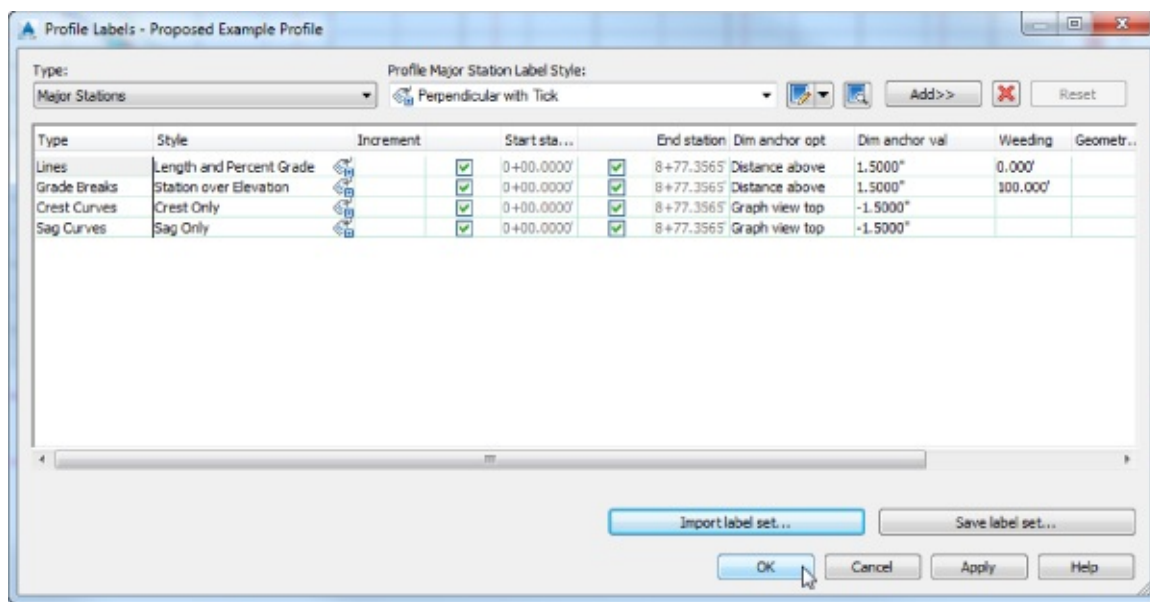

Figure 18.49 Four label types and dimension anchor settings in the label set to be saved
15. Set both Dim Anchor Val fields to **-1.5"** (**-40 mm**), as shown in Figure 18.49.